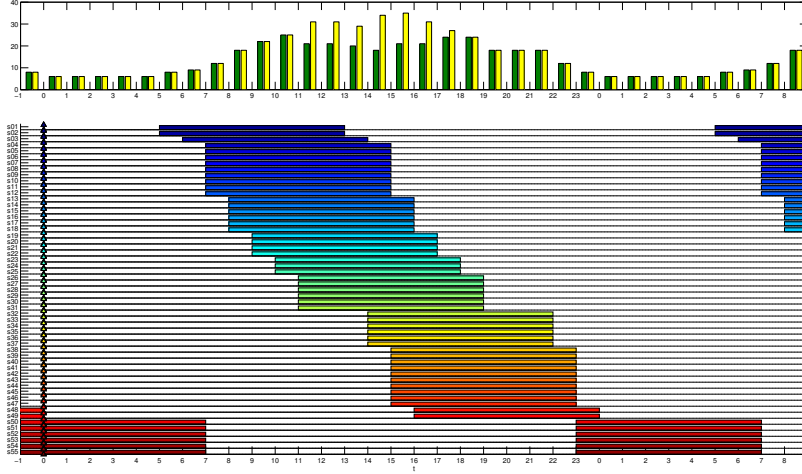

Figure 1: The coverage of the personnel demand  $b$  and the final daily schedule of the shifts
The cyclic daily schedule of the used shifts is illustrated at the bottom of Fig. 1. You can notice the large surplus of the shifts in comparison to the personnel demand between 12 a.m. and 6 p.m. How to minimize this difference between the personnel demand and its coverage is handled in Sec. 3.
**A homework assignment:** Consider the same vector of the personnel demand  $b$  as in the seminar assignment. Use the function `ilinprog` (see the example in Sec. 2.2) from the TORSCHÉ toolbox. The matrix  $A$  must be generated by the code. Firstly, solve the problem described by the ILP model Eq. 1. Secondly, modify the ILP model of the problem with respect to the Sec. 3. Show both solutions, i.e. display the number of shifts (yellow colour) together with the personnel demand  $b$  (green colour) similarly like at the top of Fig. 1 and 2, where one of the optimal solutions for each ILP model are depicted. A Matlab standard function `bar` with the default colouring of the bars can be used to show these figures.